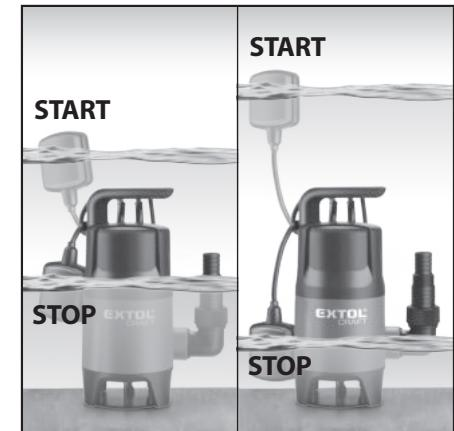

Fig. 2
► The adjustable length of the float cord makes it possible to set the water level at which the pump will start and stop, see Fig.2.
- For the float switch to function correctly, the distance between the float switch and the float switch fixture must not be too small. The described principle is shown in Fig. 2.